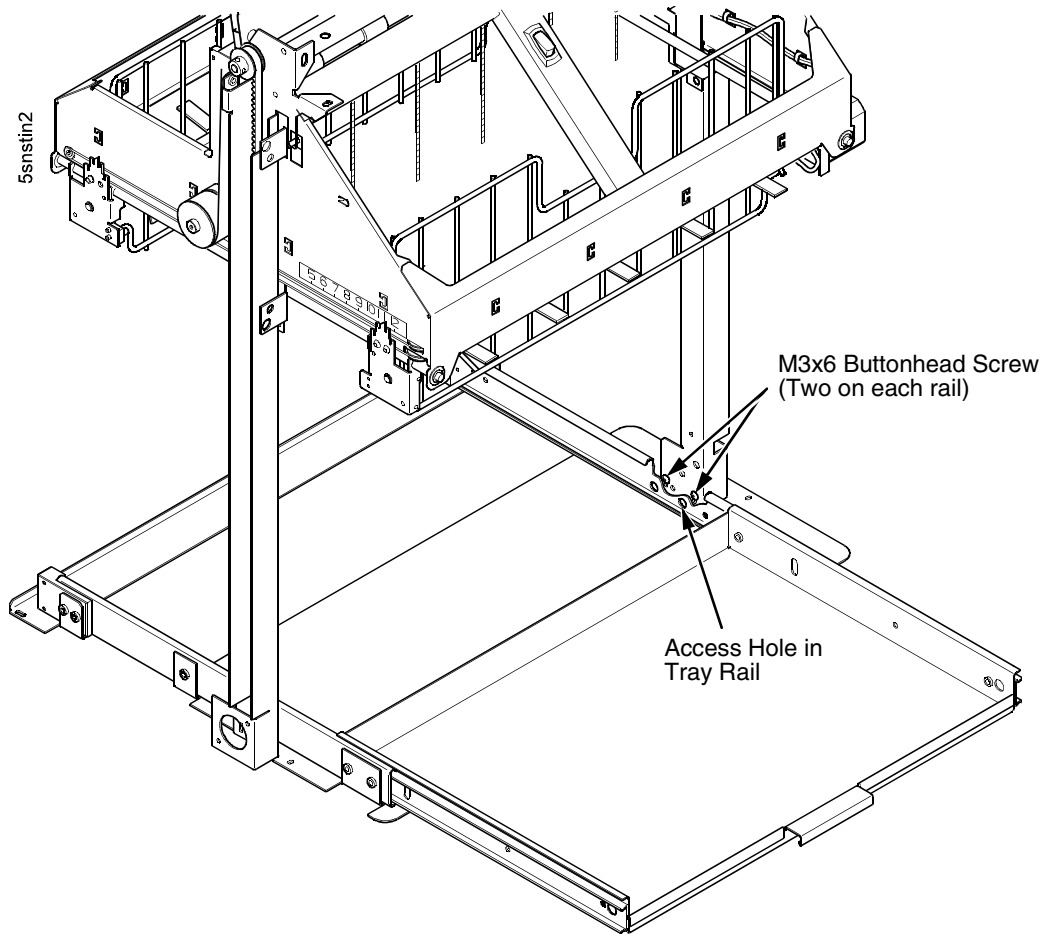

Figure 75. The Lower Screws in the Vertical Rails
9. Pull the paper tray out until the holes in the rails permit access to the M3 buttonhead screws. (Figure 75.)
10. Loosen one turn (do not remove) the M3x6 screws securing the vertical rails to the stacker base. Each rail is secured by two screws. (Figure 75.)